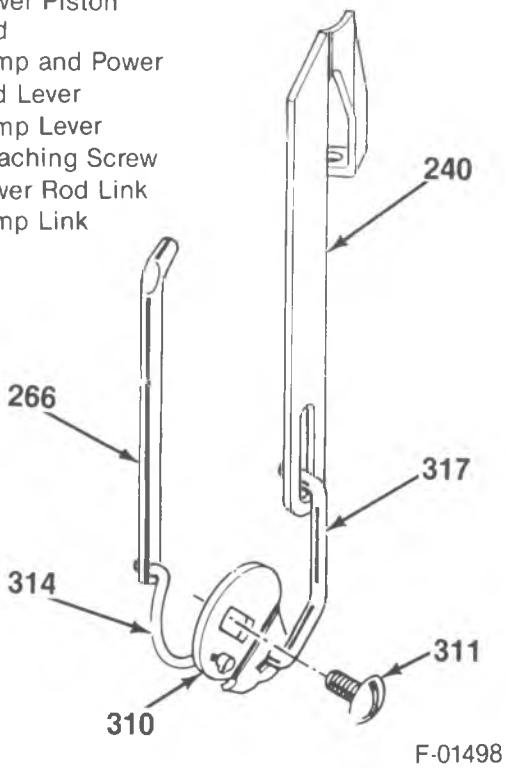

Figure 35 - Pump and Power Piston Linkage
(Figure 35)
- Pump link (317) and power rod link (314) to pump and power rod lever (310) as shown in Figure 35.